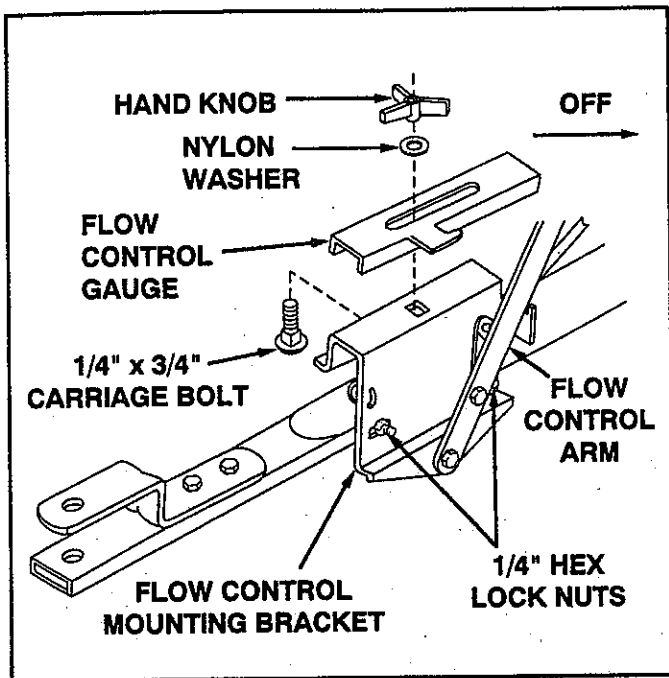

FIGURE 14
20. Assemble the flow control gage onto the flow control mounting bracket using a 1/4" x 3/4" carriage bolt, a nylon washer and the plastic hand knob. See figure 14.
21. Move flow control arm to off position and slide flow control mounting bracket toward hopper until closure plate (located in bottom of hopper) is completely closed. Tighten 1/4" hex lock nuts assembled in step 19. See figure 14.